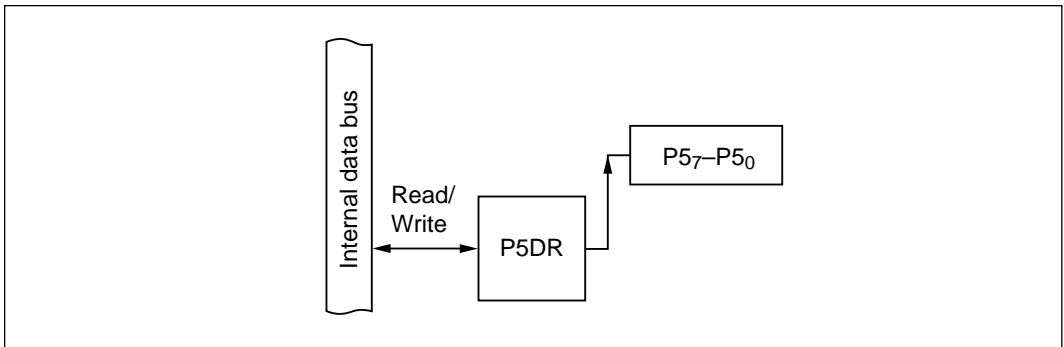

Figure 9-30 Output Port (Modes 1 to 7)
(2) Output Port (Modes 1 to 7): Figure 9-30 shows a block diagram illustrating the general-purpose output function. Table 9-22 indicates register read/write data. The value written in the port 5 data register (P5DR) is output at the pin. When read, P5DR returns the value written in P5DR.